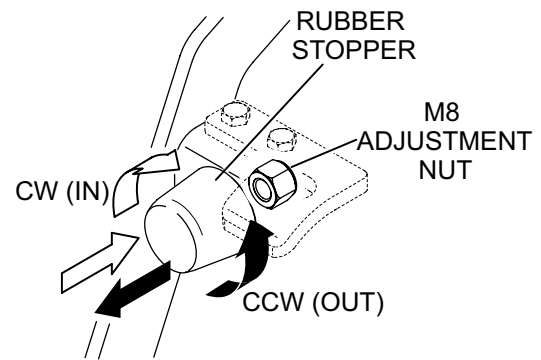

Figure 7. Rubber Stopper Adjustment
- To adjust rubber stopper (item 25), use a 17 mm open-end wrench and loosen M8 adjustment nut (item 18). Reference Figure 7.